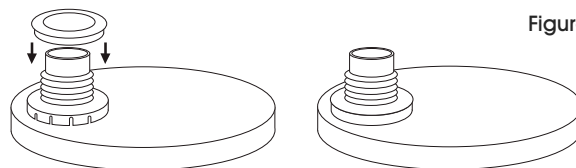

Figure 5
5. Re-install the top ring by snapping it over the bottom piece. (See Figure 5)